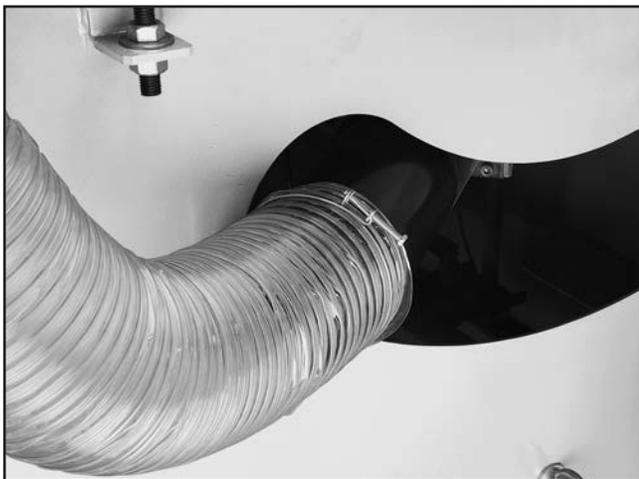

Figure 64. 5" dust port location.
1. Secure a 5" dust hose to the port located under the table on the left side with a hose clamp, as shown in **Figure 64**.